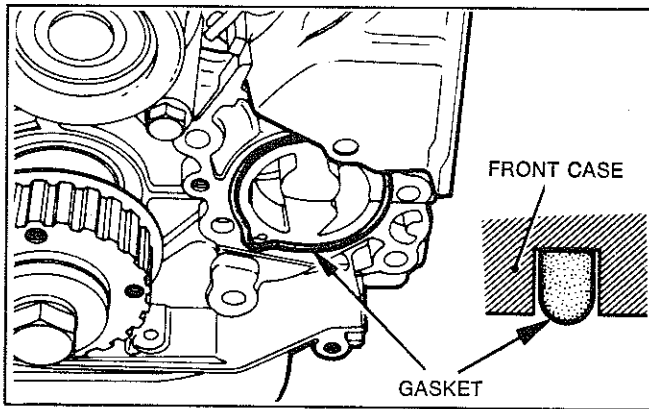

Fig. 7—Installing oil pump gasket
- (1) Install a new oil pump gasket in the groove of the front case, Refer Fig. 7.